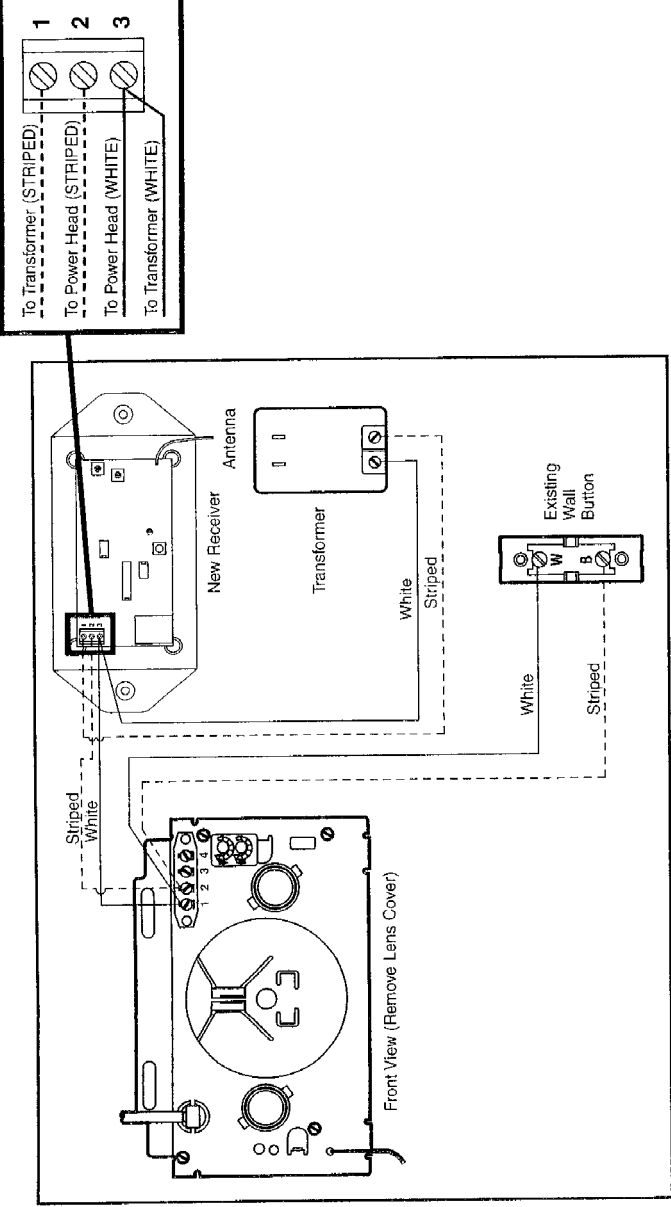

Fig. 4
- Step 2B-2 Route and staple 2-Conductor Wire from new Receiver to Power Head (Use TABLE "B" and Fig. 4 to make connections).**
- Step 2B-3 Route and staple 2-Conductor Wire from new Receiver to wall outlet (Use TABLE "C" and Fig. 4 to make connections).**